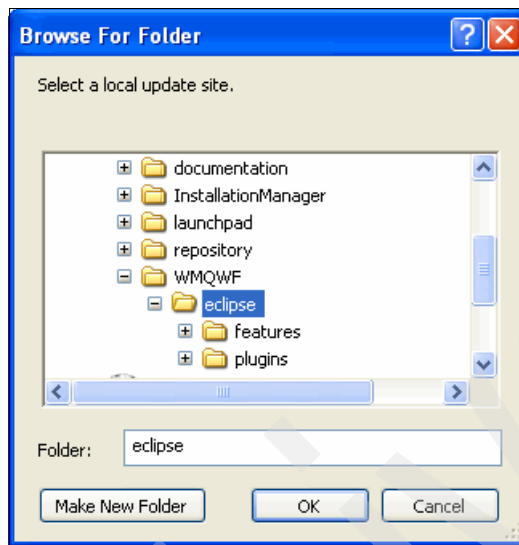

Figure 8-36 Locating the FDL_to_monitor_model_utility.zip file
- a. In the Browse for Folder window (Figure 8-36), locate the directory in which you extracted the FDL_to_monitor_model_utility.zip file and click **OK**.